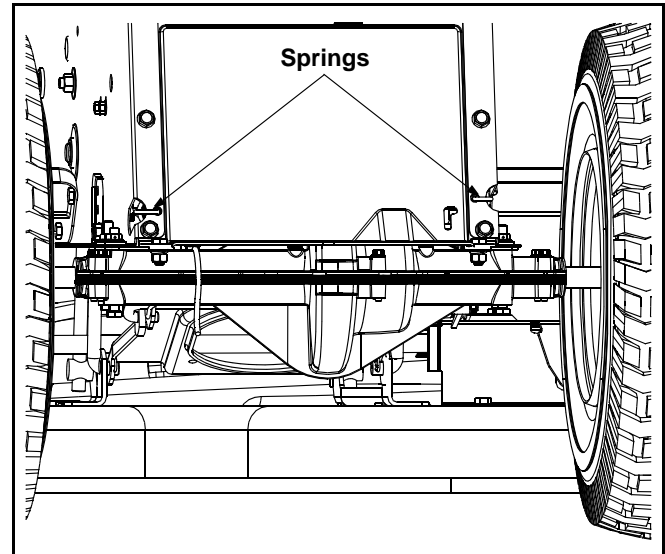

Figure 21
- Using a spring puller (Part No. 732-0571) or other suitable tool, disconnect the two springs which are attached to the rear portion of the tractor frame. See Figure 21.